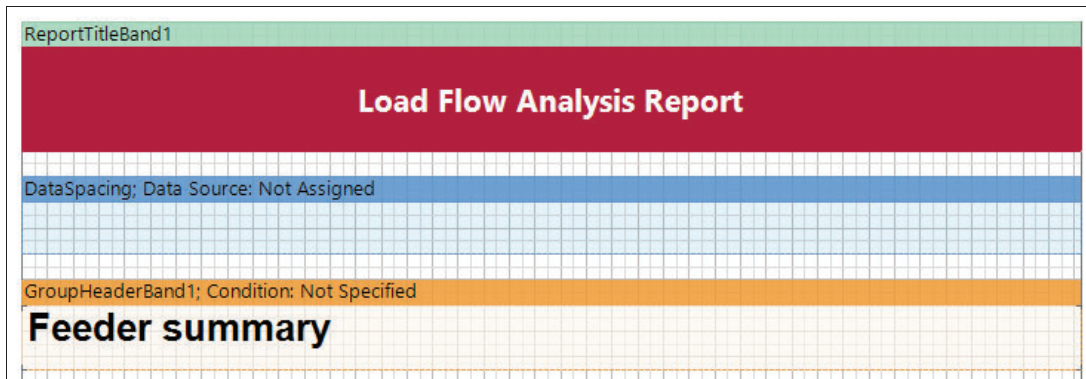

Figure 5.1: Report “Load Flow Analysis” - Part 1
- An example for the report design till this point is shown in Figure 5.1.